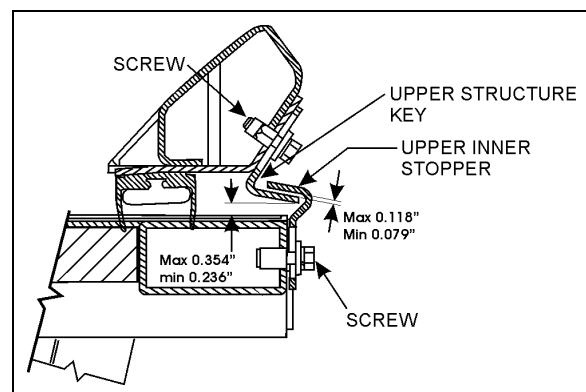

FIGURE 4: UPPER INNER STOPPERS ADJUSTMENT
2. Adjust the upper structure key and the upper inner stoppers according to FIGURE 4 with the seal deflated. When inflating, the seal